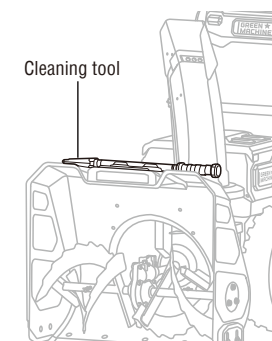

Fig. 12
**DO NOT USE YOUR HAND** (Fig.12).